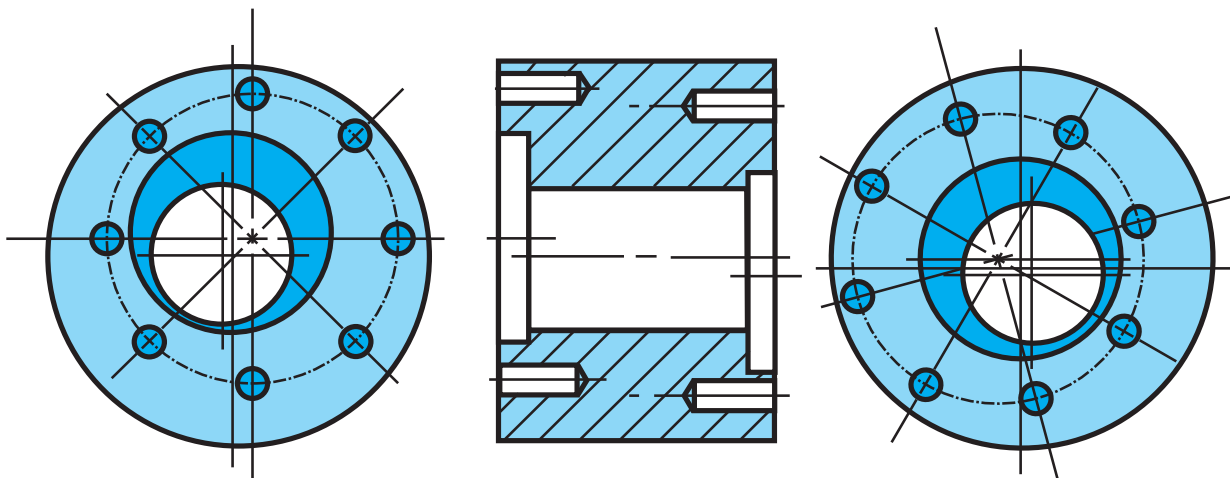

Figure 2
2.3 Features Related to Other Features – Rule #1 does not apply to the interrelationship of one feature to another feature. Figure 2 illustrates an acceptable part with respect to Rule #1. If there is a need to relate a feature to another feature, it must have a Geometric Dimensioning and Tolerance (GD&T) control such as Position, or Perpendicularity.